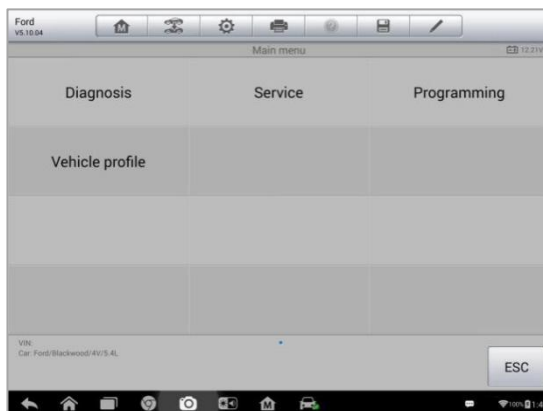

Figure 4-2 Sample Vehicle Diagnostics Screen
5. Tap **Done**. The vehicle will be identified in a few seconds, and once the matching is successful, the system will guide you to the Vehicle Diagnostics screen directly. (Figure 4-2)
The Vehicle Diagnostics screen (*Figure 4-2*) has 2 main options: